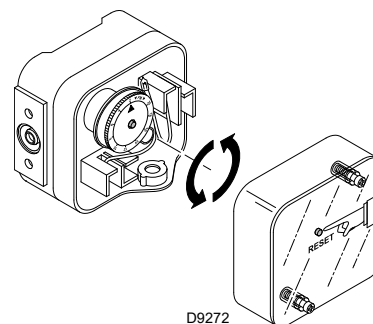

Fig. 29
- Adjust the maximum gas pressure switch (Fig. 29) to the end of the scale.
Adjust the maximum gas pressure switch (Fig. 29) after having performed all other burner adjustments with the maximum gas pressure switch set to the end of the scale.